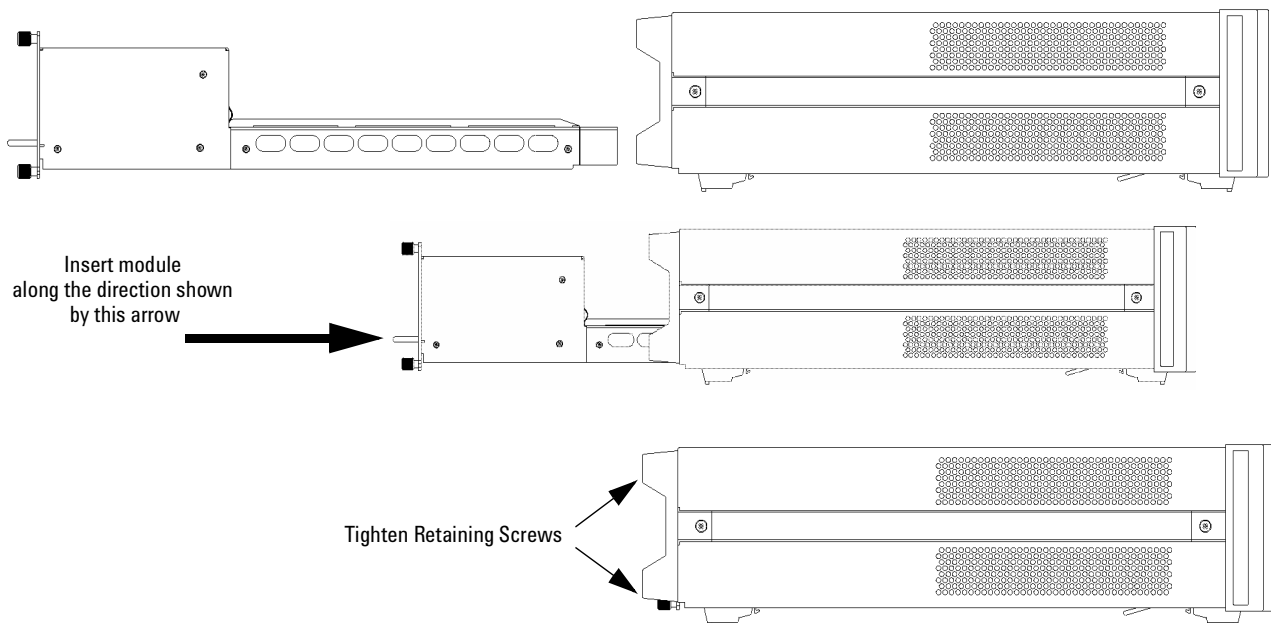

Figure 194 Fitting a Back-Loadable Module
- 1 Position the module at the rear of the instrument as shown in Figure 194 .
If you insert the module at an angle or vertically, you may damage the instrument and the module. You should insert the module along the direction shown by the arrow in Figure 194 .